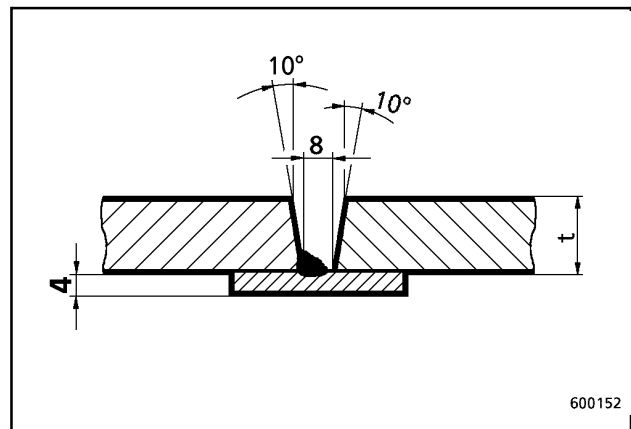

Fig. 43
- Square-edge butt weld (fig. 43)